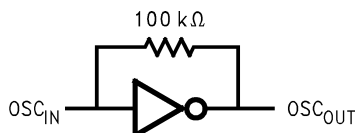

Figure 1.
- *** 50Ω termination is often used on test boards to allow use of external reference oscillator. For most typical products, a CMOS clock is used and no terminating resistor is required. OSC_{IN} may be AC or DC coupled. AC coupling is recommended because the input circuit provides its own bias. (See Figure 1)